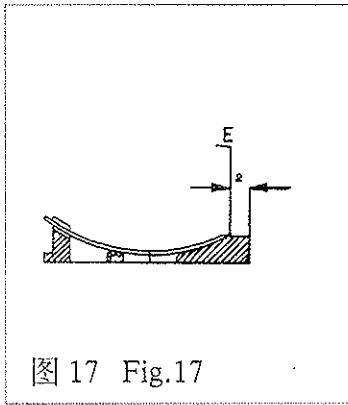

图 17 Fig.17
(4)机针摆幅 机针的摆幅决定了机针右极限的位置。要求机针运动到右极限时,针尖到针板右侧面的距离为2毫米左右(图17),此时针尖刚好微露出右导针槽的极限点“E”(图17)。如果上述位置不正确,必须调整机针摆幅。
The right limit of needle depends on the limit of the needle throw. When the needle reaches the right limit, the needle point shall be in about 2mm distance from the right side of the needle plate (Fig.17). At this moment, the needle point is right put out of the limit point "E" of the right needle guide groove(Fig.17). If the positioning of location is incorrect, the limit of the needle throw shall be regulated.